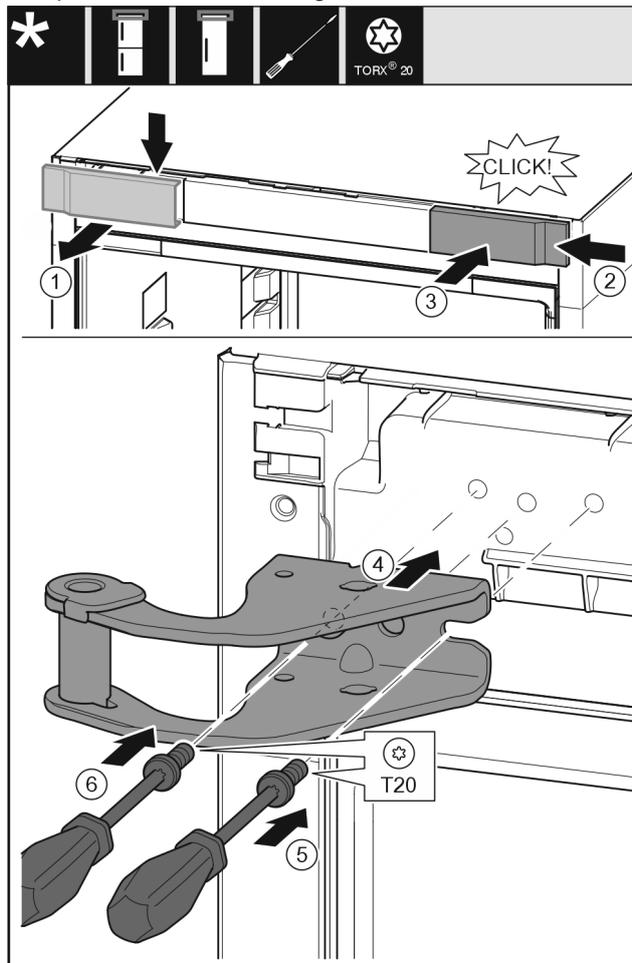

Fig. 9
- ▶ Take off the cover from above to the front. Fig. 9 (1)
- ▶ Rotate the cover 180° and clip onto the other side from the right. Fig. 9 (2)
- ▶ Latch the cover into place. Fig. 9 (3)
- ▶ Position the upper bearing bracket. Fig. 9 (4)
- ▶ Insert the screw with a T20 screwdriver and tighten it. Fig. 9 (5)
- ▶ Insert the screw with a T20 screwdriver and tighten it. Fig. 9 (6)